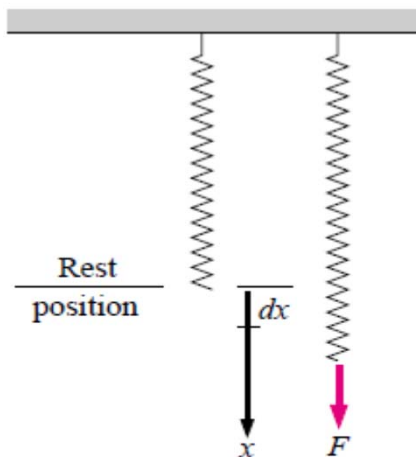

Fig. 1.16: Elongation of a spring under influence of a force
- It is common knowledge that when a force is applied on a spring, the length of the spring changes (Fig. 1.16). When the length of the spring changes by a differential amount dx under the influence of a force F , the work done is